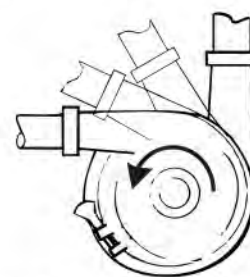

Figure 3 - Recommended Discharge Positions)
- 3.5 The pump casing may be rotated with the discharge connection pointing in any direction; best pump performance will be with the outlet up, to the left or positions in between; these positions insure a flooded casing and prevent problems due to air in the system. (See Figure 3).
- 5.3 Check pump rotation following electrical installation. Correct rotation is counterclockwise when facing pump inlet connection. (See Figure 3).